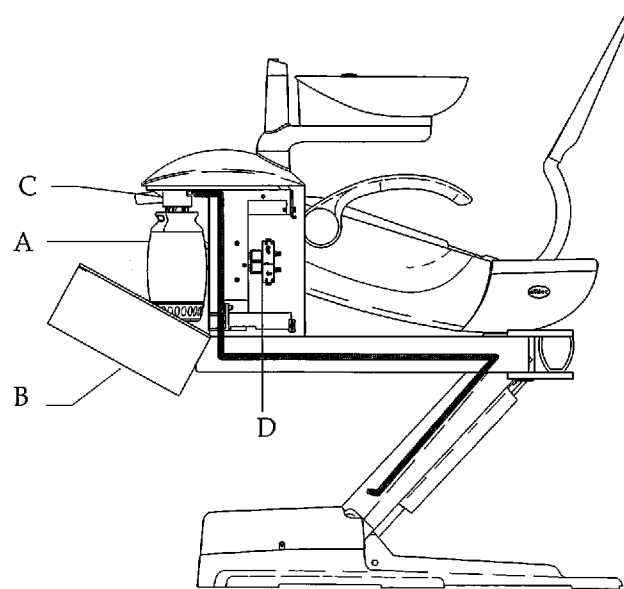

Figure 48. Installing the water bottle to the support center. (A) water bottle; (B) water bottle cover; (C) receptacle; (D) water manifold
3. Route the tubing through the arm, support link and down the chair lift arm (see Figure 48).